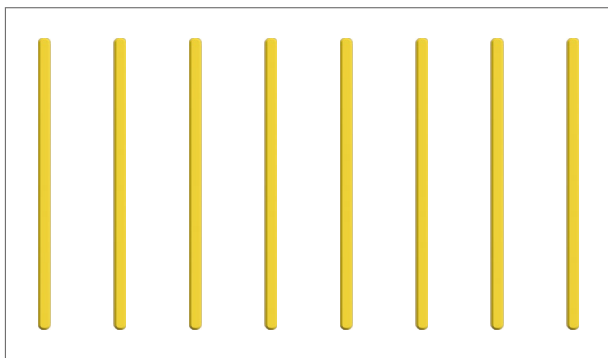
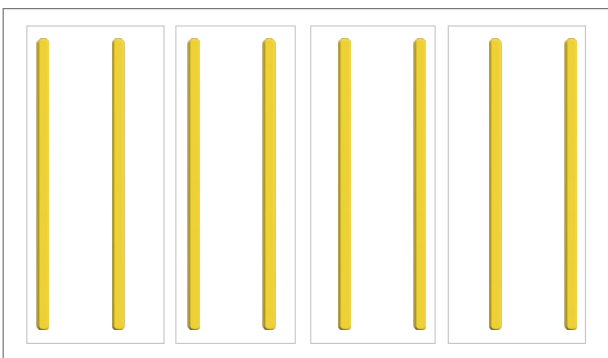

Figure 9a
Figure 9b
3. Apply six (6) more ribbons to each 2' x 4' (0.6 x 1.2 m) insulation board, evenly spaced (nominally 5" to 6" [127-152 mm] apart) between the end ribbons.
5. Where used, Sto ProD insulation boards shall have two adhesive ribbons between each drainage channel (Figure 9b).
NOTE: TurboStick and TurboStick Mini application pattern is the same for both standard (flat) (Figure 9a) Sto insulation board and Sto ProD (Figure 9b) insulation board.